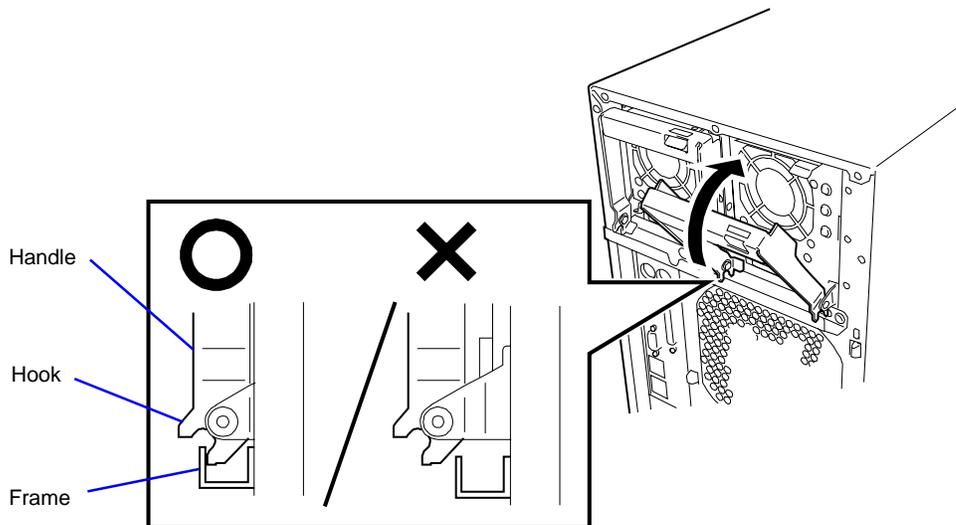

Figure 4-29. Pushing up the Power Supply Handle
5. Push the power supply handle up. See Figure 4-29.